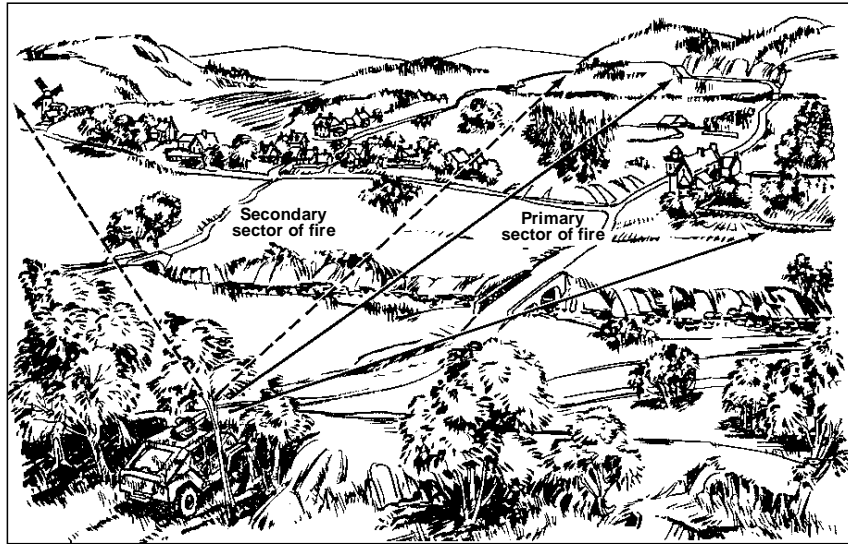

Figure 1. Primary and secondary sectors of fire.
- b. Sketch the primary and secondary sectors of fire of your squads (Figure 1).